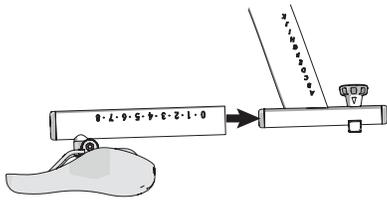

Figure 5
1. Take the seat post out and turn it upside down. Slide the seat assembly onto the seat post (Figure 5)